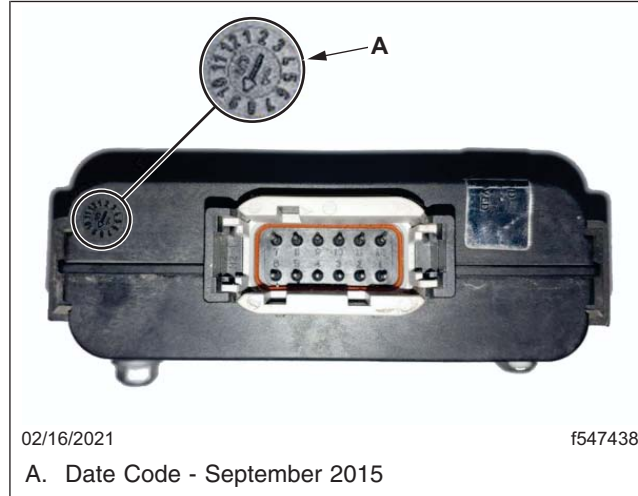

Fig. 4, TPMS Housing Date Code
5. Inspect the TPMS housing date code. If the date is between February 2019 and June 2020, replace the TPMS module. See Fig. 4 for the location of the date code.